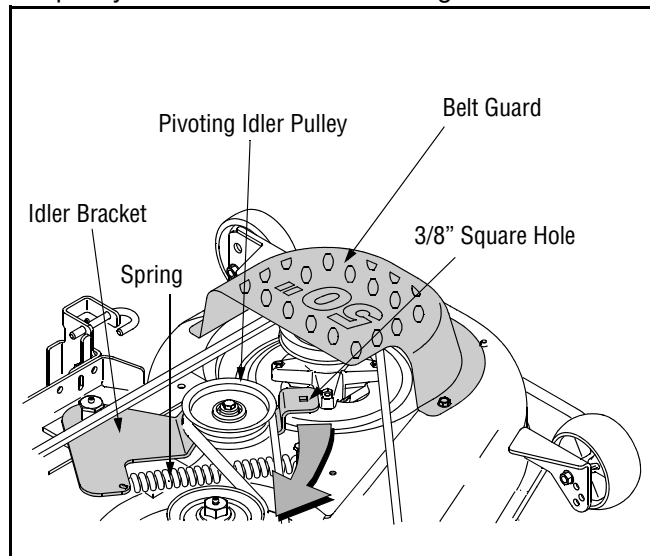

Figure 24
- To ease in removing the belt, loosen, but do not remove, the bolt which secures the pivoting idler pulley to the idler bracket. See Figure 24.
- Insert a 3/8"-drive ratchet wrench (set to *tighten*) into the square hole found in the idler bracket on the left side of the deck's surface. See Figure 24.